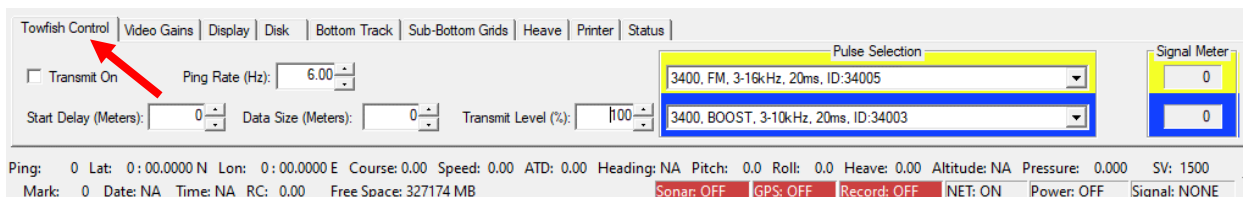

Figure 2-5: The Towfish Control Tab
2. Run a Tap Test – Navigate to the Towfish Control Tab, shown in **FIGURE 2-5**.